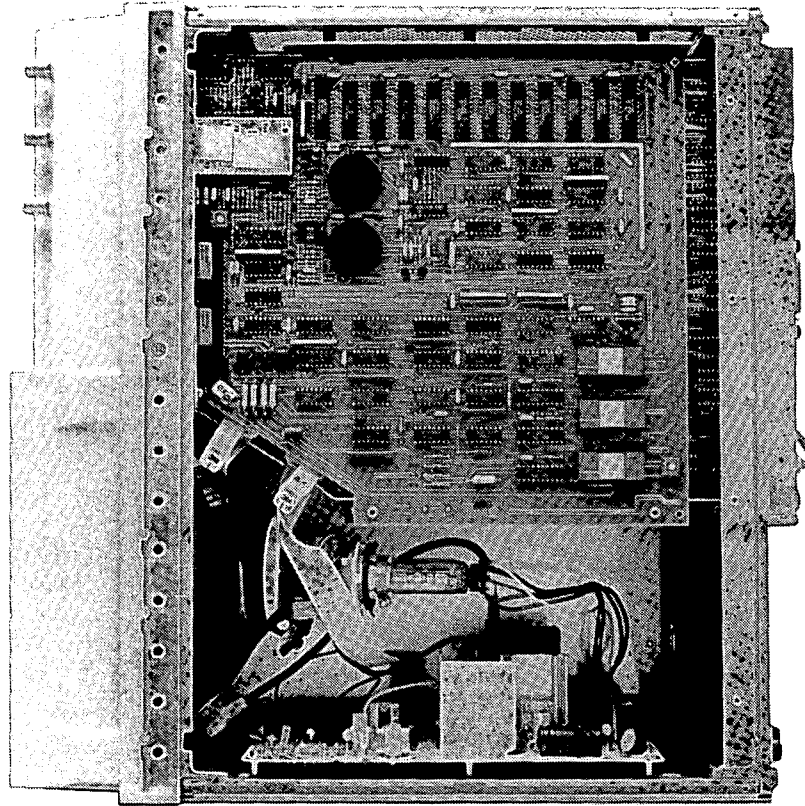

Figure 6.
- 15) Carefully slide the 1631 Analog Board into the bottom of the instrument with the component side up. Push the BNC connectors through the front panel holes as the board bus connector mates with the connector on the motherboard. Be sure the board is fitted into the board guide (see figure 6).